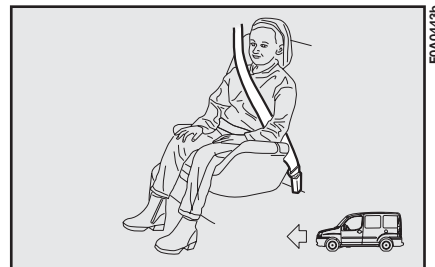

fig. 17
**Fig. 17** shows proper child seat positioning on the rear seat.